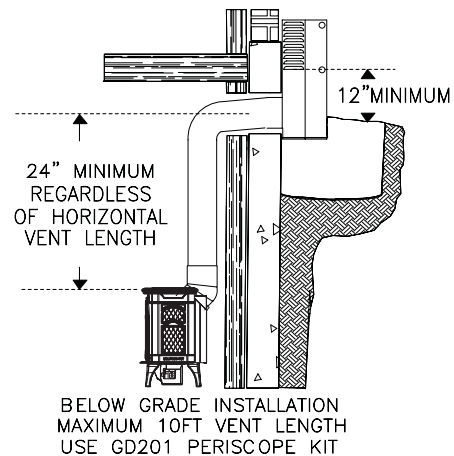

FIGURE 4
- When terminating vertically, the minimum vertical rise is 3 feet above the stove and the maximum vertical rise is 40 feet. **FIGURE 4.**